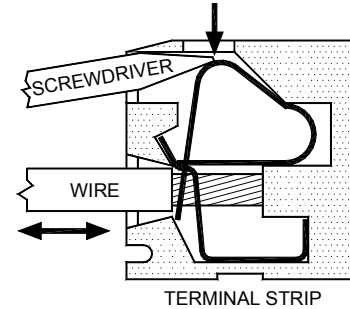

Figure 8. J2 Output Connector Cross Section
| FIGURE 8. J2 OUTPUT CONNECTOR CROSS SECTION | 7 |
2. Make output connections according to Figure 8 and 9 or 10. When using a *standard* wiring Lite-Pac, twist together the brown and white Lite-Pac **trigger** leads and connect them to the appropriate terminals on the output panel.